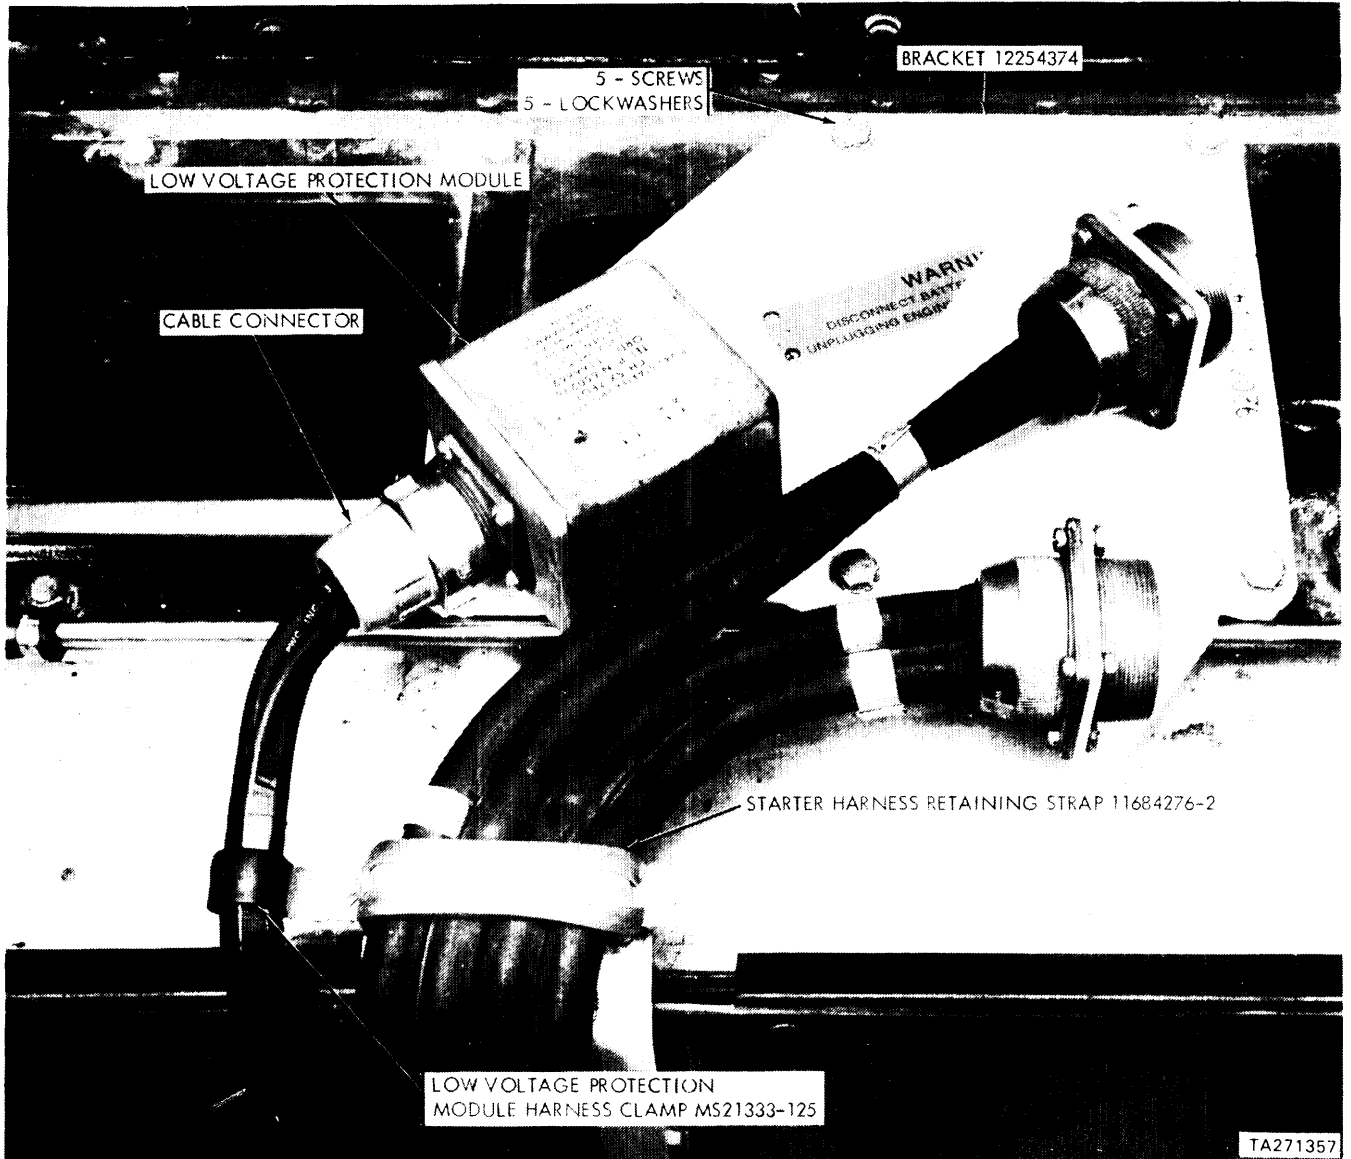

Figure 21. Starter Harness Disconnects and Low Voltage Protection Module
(10) Remove and retain securing hardware and remove starter harness retaining strap 11684276-2 and low voltage protection module harness clamp MS21333-125 (figure 21).
(12) Remove five screws and lock washers securing bracket 12254374 to engine access cover (figure 21). Position bracket and cables aside.